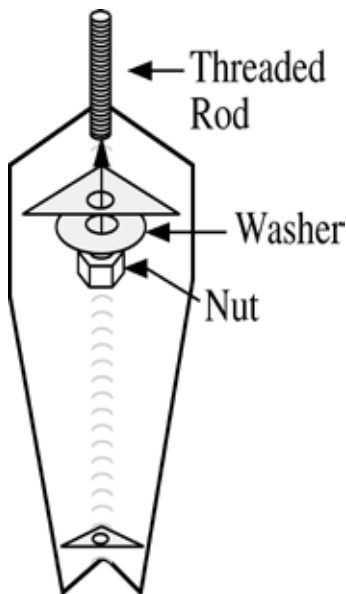

Figure 1
2. Mount all four legs as shown in FIGURE 1 below.